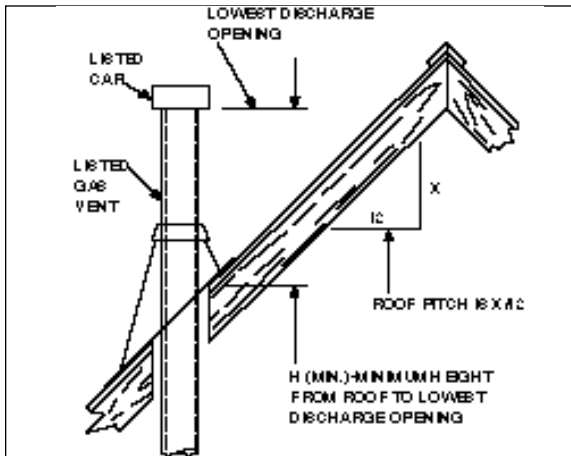

Figure 15 Venting System Height if Termination Location is at Least 8' From a Vertical Wall
6. Marking the exit point in the roof. Locate the point where the venting will exit the roof by plumbing down to the center of the vent. Drive a nail up through the roof to mark the center. See Figure 15.
10. Termination cap. Major building codes specify a minimum venting system height above the roof top depending on roof pitch. See Figures 15 and 16.